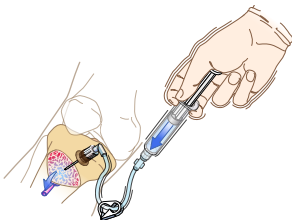

FIGURE 22
11. **Flush the EZ-IO® catheter with 5-10 ml of Normal Saline.** (See Figure 22)